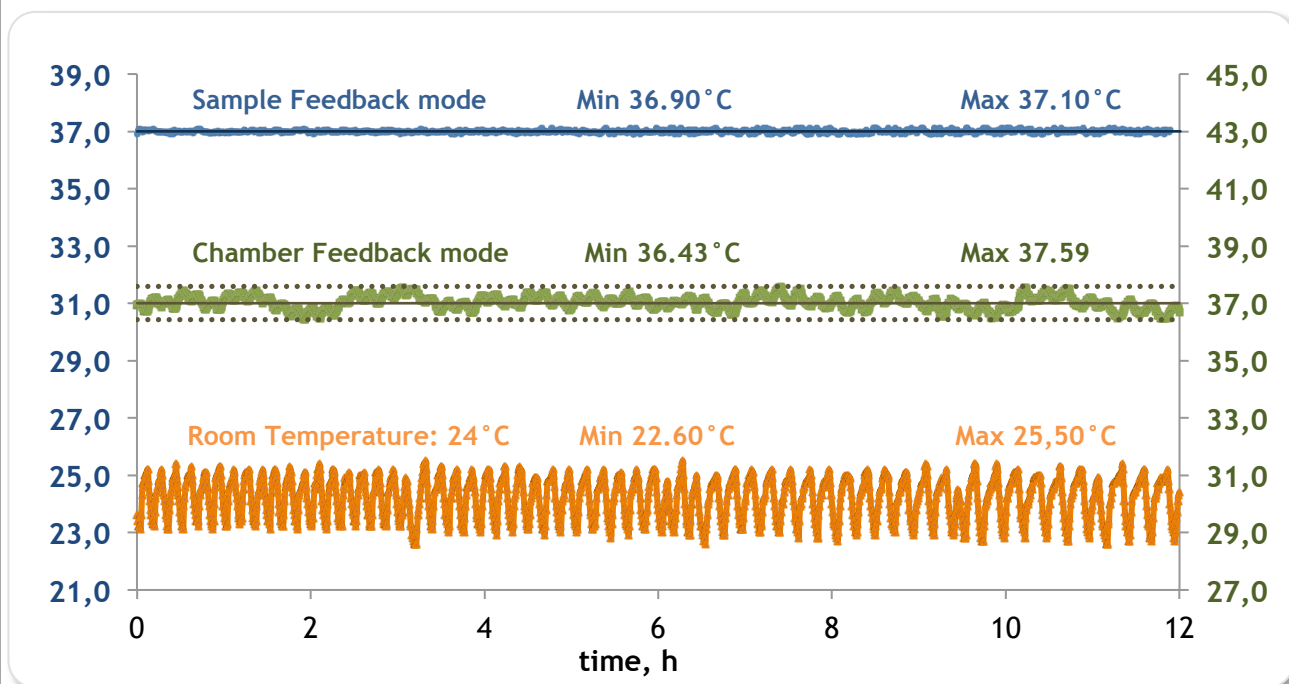

Figure 1 -Sample Temperature Stability Assessment. **Sample Feedback** and **Chamber Feedback** mode.
**Temperature accuracy and stability** is reported in Figure 1, where Sample Temperature is plotted as a function of time for the system operated in **Sample Feedback (left axis)** and **Chamber Feedback (right axis)** mode. **Room Temperature**, plotted in Orange, varied in the range 22.60°C - 25.50°C.